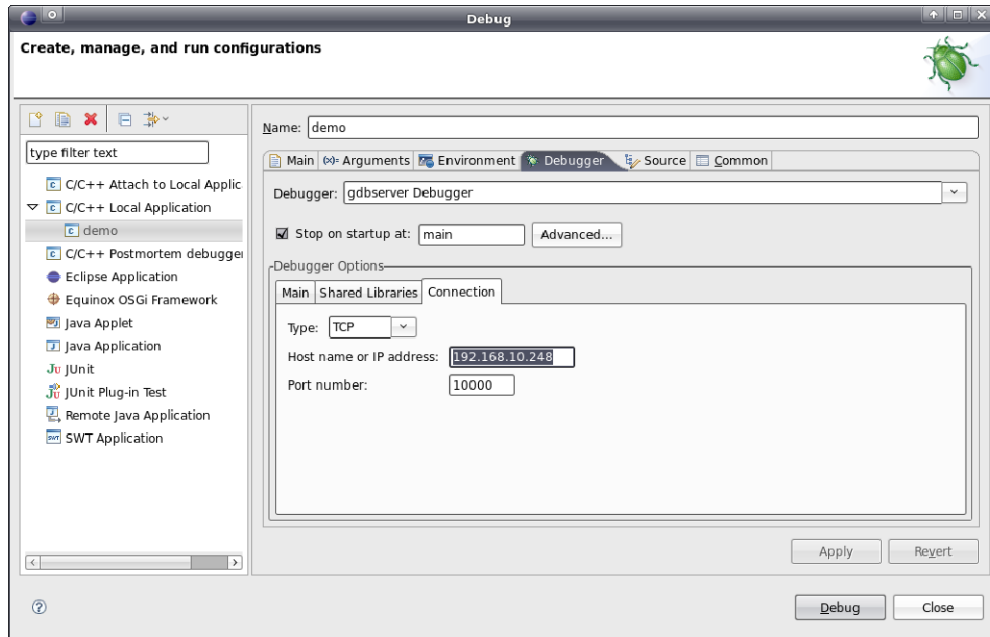

Figure 55: Configuring the connection to the Target
Use `"192.168.10.82"` as IP address of the Linux development system (compare section 6.5 for the determination of the IP address). The port number following the colon may be chosen freely (here: `"10000"`), but it must correspond with the port number of the Target connection within Eclipse as described in the following section 2.3 (also compare Figure 55).
2.3 Configuring the connection to the Target (see Figure 55)
The configuration of the connection to the Target also takes place in Tabsheet "Debugger". Hence, enter the appropriate information in section "Debugger Options" in Sub-Tabsheet "Connection" (see Figure 55). In area "Host name or IP address" the IP address of the ECUcore-9G20 as defined in section 5.4 must be entered ("192.168.10.248" for the example above). Enter the Port number defined in point 1.4 in area "Port number" when command "gdbserver" is called (for this example: "10000").